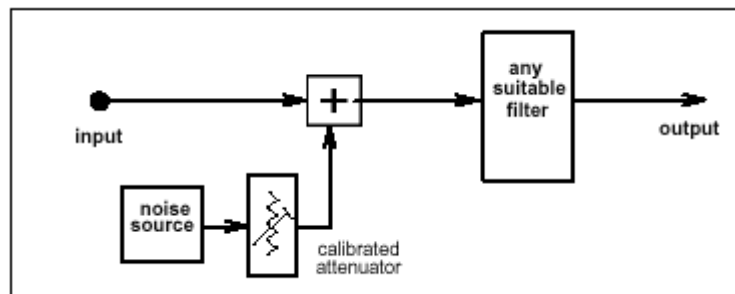

Figure 1: Channel model block diagram
A representative noisy, band-limited channel model is shown in block diagram form in Figure 1. Band limitation is implemented by any appropriate filter.
4. an OUTPUT ADDER module, not shown in Figure 1, to compensate for any accumulated DC offsets, or to match the DECISION MAKER module threshold.